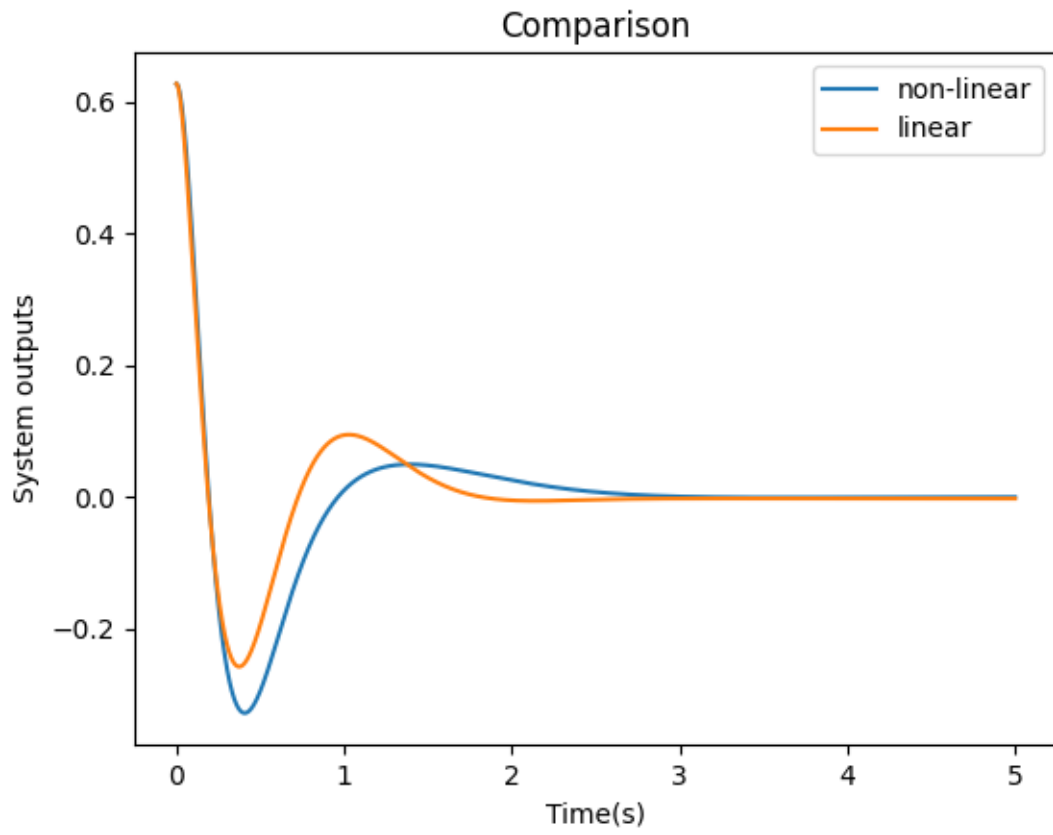

Figure 8: Comparison
4. The comparison between the linear and non-linear system can be seen below in Figure 8